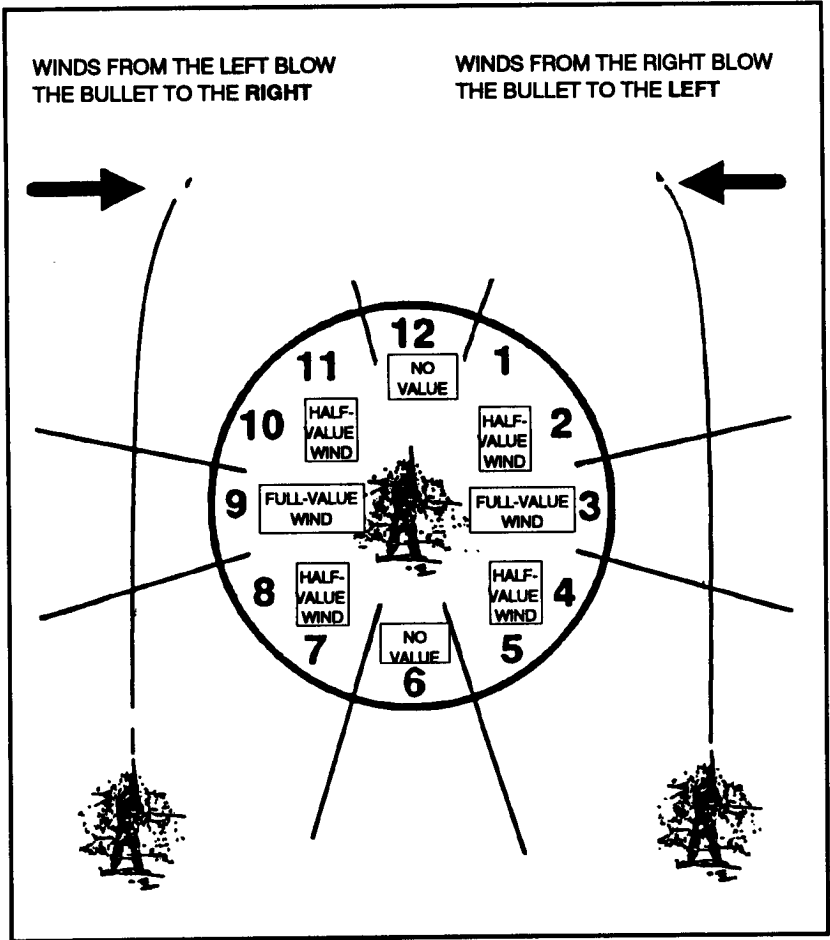

Figure 3-19. Clock system.
(3) **Humidity.** Humidity varies along with the altitude and temperature. Figure 3-19 considers the changes in altitudes. Problems can occur if extreme humidity changes exist in the area of operations. That is, when humidity goes up, impact goes down; when humidity goes down, impact goes up. Since impact is affected by humidity, a 20 percent change in humidity equals about one minute as a rule of thumb. Keeping a good sniper data book during training and acquiring experience are the best teachers.
b. Since the sniper must know how much effect the wind will have on the bullet, he must be able to classify the wind. The best method is to use the clock system (Figure 3-19). With the sniper at the center of the clock and the target at 12 o'clock, the wind is assigned three values: full, half, and no value. Full value means that the force of the wind will have a full effect on the flight of the bullet. These winds come from 3 and 9 o'clock. Half value means that a wind at the same speed, but from 1,2,4,5,7,8, 10, and 11 o'clock, will move the bullet only half as much as a full-value wind. No value means that a wind from 6 or 12 o'clock will have little or no effect on the flight of the bullet.